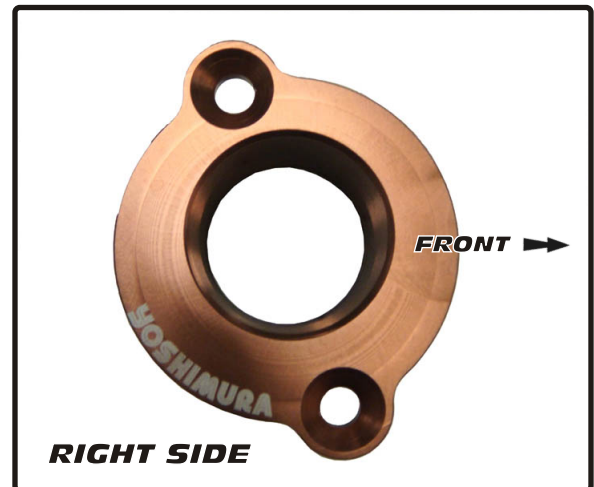

Fig. 5
15. Install Yoshimura right and left side pivot shaft plate using stock bolts (Fig. 5).